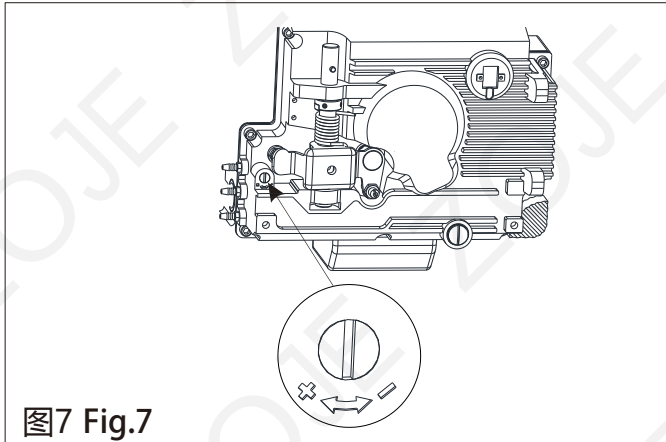
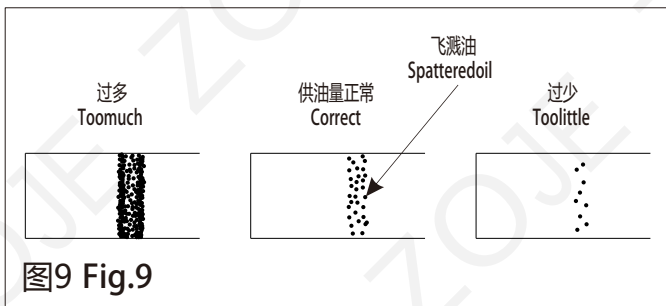
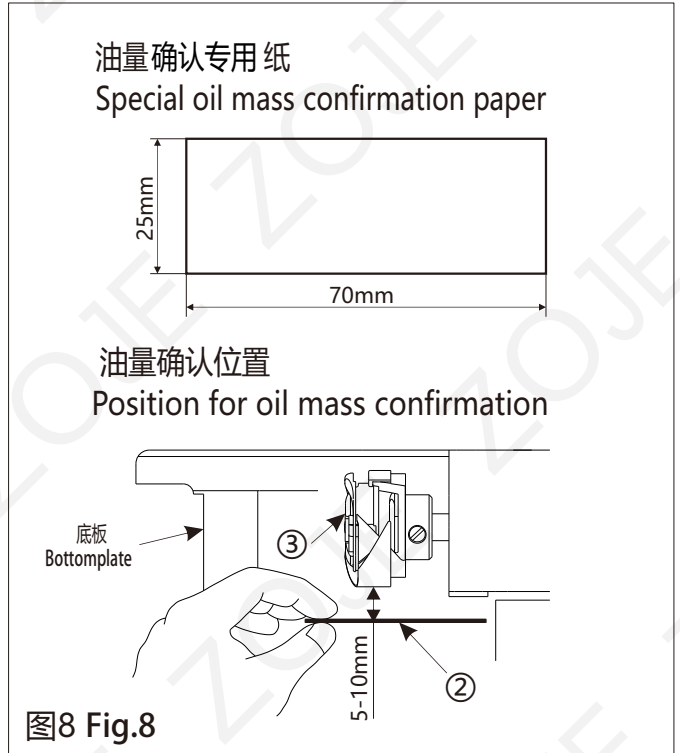

图7 Fig.7
图9 Fig.9
图8 Fig.8
7 旋梭油量调节 (图7、图8、图9) Oil mass Adjustment of Rotating Hook (Fig. 7 , Fig. 8 , Fig. 9)
1) 上图标样(见图9)可根据不同的缝纫工序需求进行增或减的微调整, 但应注意不要增加或减少过多。油量过少时会引起旋梭发热, 油量过多时会污染缝料。
1) The guide sample shown in the right-hand figure(see Fig. 9) may be finely adjusted (increased or reduced) as per different sewing processes; however, excessive increase or reduction shall be avoided. Too little oil mass may lead to rotating hook heating, and over much oil mass may lead to contamination of the sewing materials.